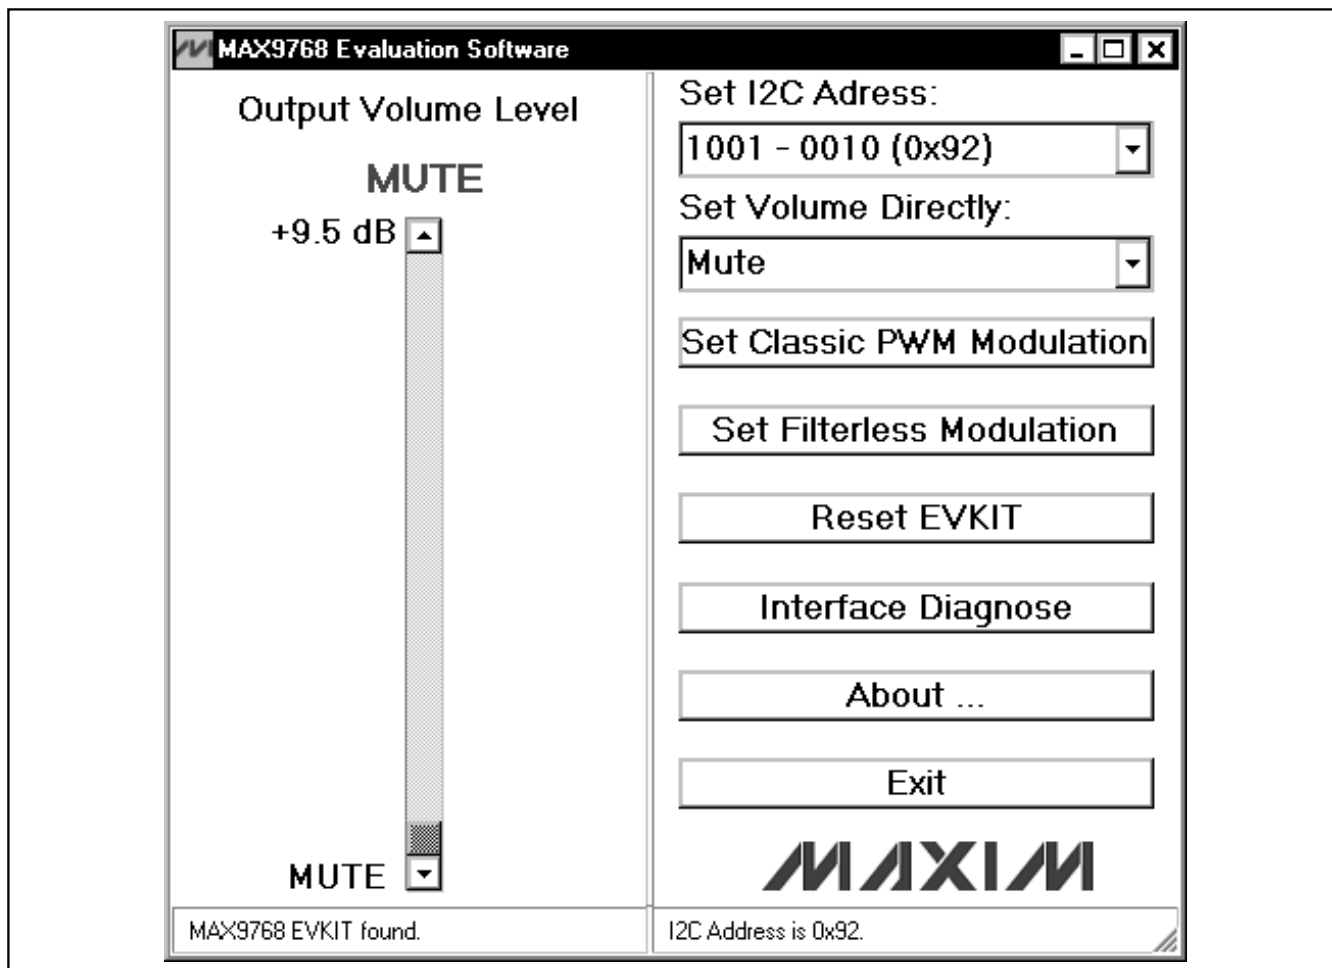

Figure 1. MAX9768 Evaluation Software Main Window
- 16) Start the MAX9768 EV kit software by opening its icon in the **Start** menu. The GUI main window appears, as shown in Figure 1.
To start the MAX9768 EV kit software, double-click the MAX9768 EV kit icon created during installation. The GUI main window appears, as shown in Figure 1. Wait approximately 2s while the MAX9768 EV kit software connects to the CMAXQUSB board and automatically detects the I²C address of the device.